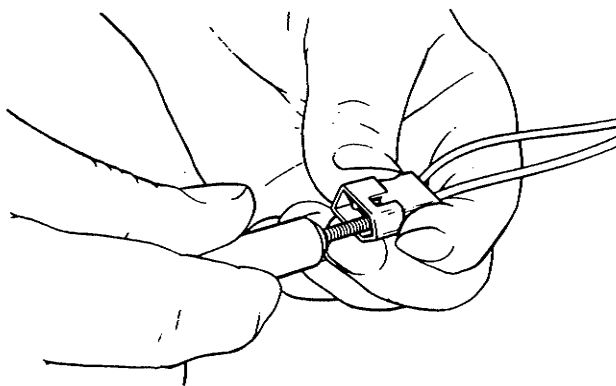

Figure 54. Molex Connector and Special Tool
5. Using a special tool, remove the two wires from the Molex connector (Fig. 54).